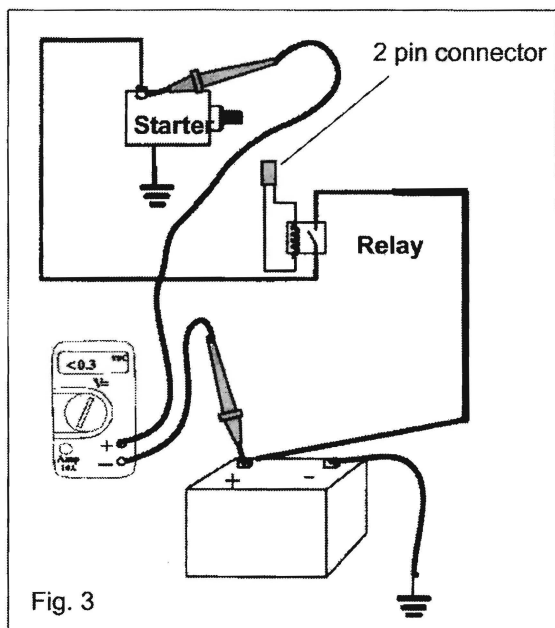

Fig. 3
8. Place the other lead of the DMM to starter motor positive terminal screw. (Fig. 3)
7. Place one lead of DMM to positive battery post. (Fig.3)
13. Place other lead of DMM to relay terminal leading to battery. (Fig. 3)